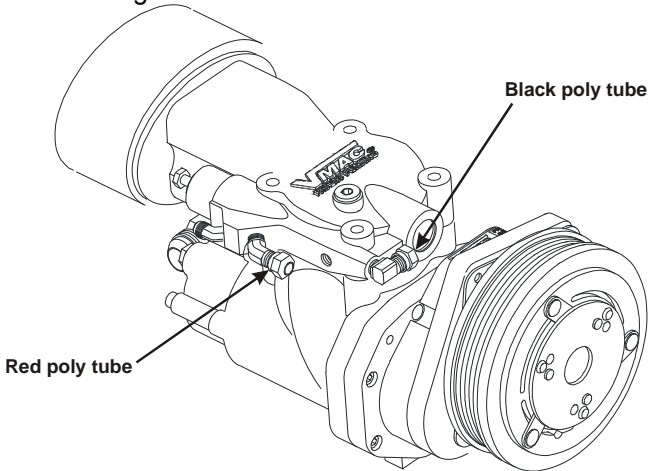

Figure 4.7
- Insert the red poly line into the fitting on the back of the inlet control valve (Figure 4.7, V10 shown).